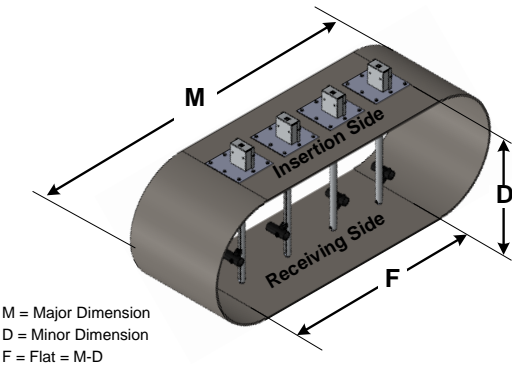

Figure 1
Before proceeding, confirm the probes provided are correct for the application (Reference Figure 1 & Table 2). The Insertion Side of the duct "H" is where the probes are to be installed and the other side of the duct "W" should be the same as the probe length for probes ≥14". For ducts with internal lining or insulation, the probes provided have been manufactured to accommodate the insulation thickness.
Reference Figure 1: Before proceeding, confirm the probes provided are correct for the application. The Insertion Side is where the probes are to be installed over the flat "F" area. The "D" dimension should be the same as the probe length for probes ≥14". For ducts with internal lining or insulation, the probes provided have been manufactured to accommodate the insulation thickness.
2. Using the four 0.20" diameter holes located on the transmitter enclosure, secure the transmitter to mounting surface using (4) #8 or #10 Pan Head Screws. For sheet metal mounting surface, use sheet metal or tek screws, for plywood surface use coarse thread wood screws, for drywall surface, use drywall anchors with the appropriate screws.
3. Connect each probe to the corresponding probe input channel on the transmitter using the cables provided (Reference Figure 1)